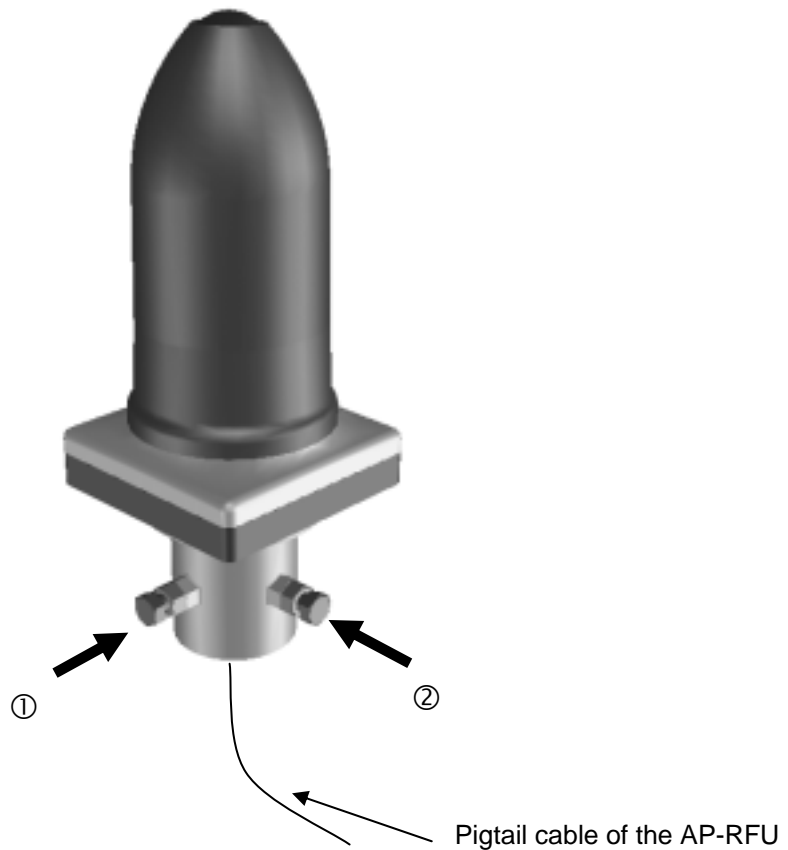

Figure 5-1 Installing the AP-RFU (Omni Antenna)
Fix the AP-RFU (omni antenna) to a pole using the bolts ① and ②. At this time, extract the pigtail cable that comes with the AP-RFU from the hole in the pole as shown in Figure 5-1.